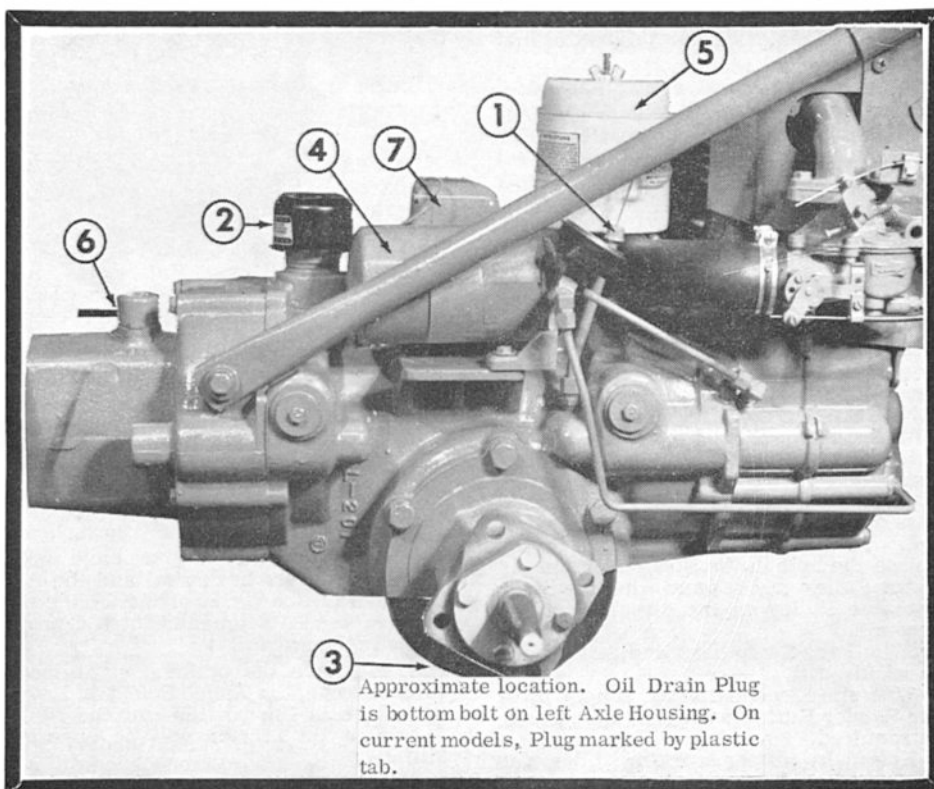

Figure 1
**OIL LEVEL.** Routinely check the oil level with the Dipstick, 1 in Figure 1, before starting. Be sure the Tractor is level.1
**ADDING OIL.** Add oil by removing the Oil Filter Cap, 2 in Figure 1. Stop when oil reaches the FULL mark on the Dipstick. **Note:** Allow enough time for the oil to seek its own level before checking to see if the FULL mark has been reached. This prevents over-filling the Chassis.
**OIL CHANGES.** During the break-in period, the first 40 hours of operation, change oil every 20 hours. Then change oil every 60 hours under normal conditions, or every 40 hours under very dusty or dirty conditions and during extended operation. Drain used oil by removing the Oil Drain Plug, the bottom bolt in the left Tractor Axle Housing2, 3 in Figure 1. In replacing this Nylon-plugged bolt in the bottom bolt hole, be sure the special sealing washer is in place.
The Oil Filter, 4 in Figure 1, is designed to be unscrewed by hand from its Bracket. However, to break the seal, it may be necessary sometimes to use slight force.
The "Double-Guard" Air Cleaner4, 5 in Figure 1, makes it virtually impossible to damage the Engine with dirty air; when the Cleaner becomes clogged with dirt particles, this blocks the flow of air to the Engine, thereby stopping the Engine.
6An Ignition Stop Switch accessory is available for older Tractors. If you have an older Tractor not equipped with the Ignition Stop Switch, stop the Engine by depressing the Magneto Stop Button, mounted on the Magneto, 7 in Figure 1.
**ATTACHMENT CLUTCH LEVER.** The Attachment Clutch Lever, 6 in Figure 1, puts the power attachment in and out of gear. Lever positions are shown by the embossed IN and OUT.